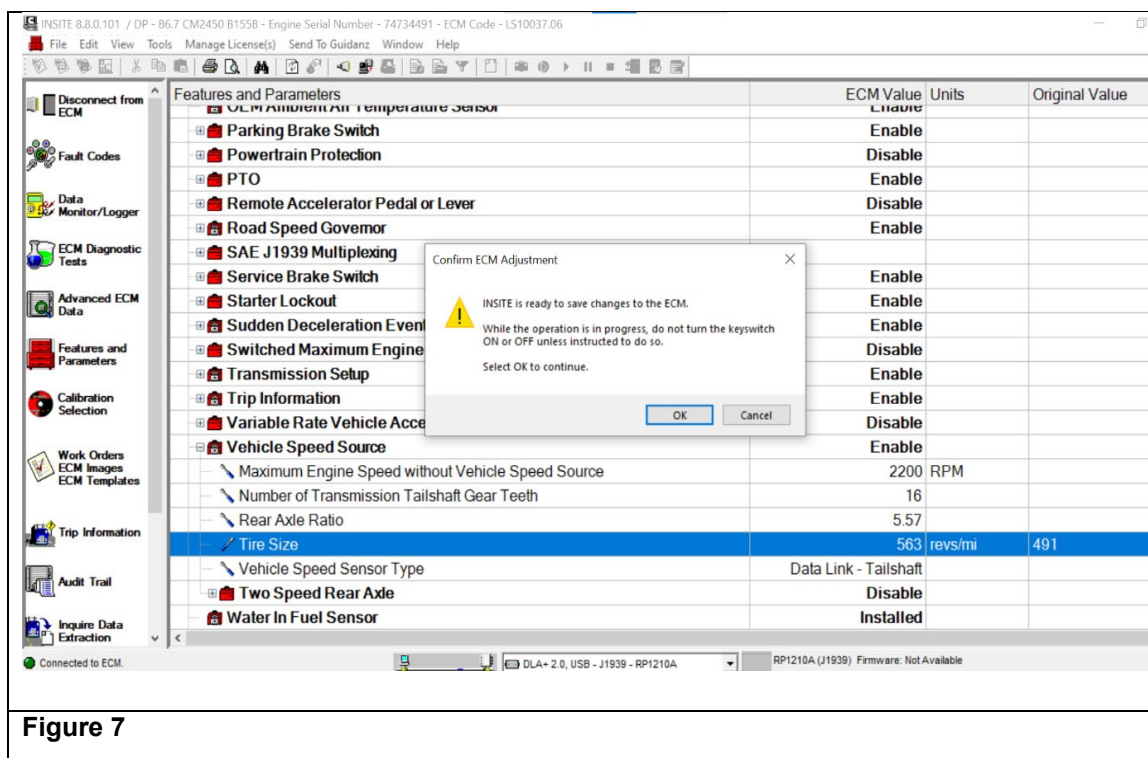

Figure 7
11. Click OK to Confirm ECM Adjustment. (See Figure 7.)